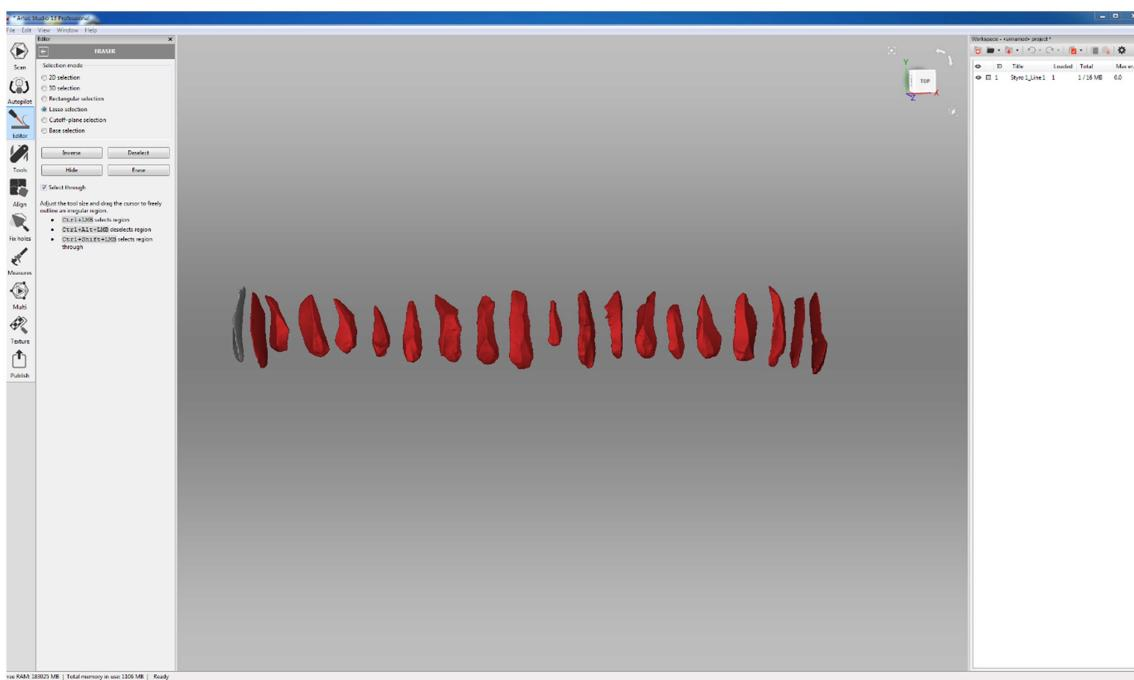

Fig. 31: Selected artefacts which will be deleted to separate the first one.
43.5 Press and hold Ctrl while selecting all artefacts but the one that you want to separate. Selected artefacts will be highlighted red (Fig. 31).